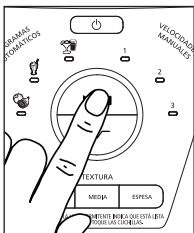

Fig. 22
4. Once you have chosen the automatic program and the desired texture selection, press start/stop button  (Fig. 22).
5. To change your selection, press start/stop button  to cancel the program (Fig. 22). Choose the desired automatic program and texture selection. Press start/stop button  to start the program (Fig. 22).